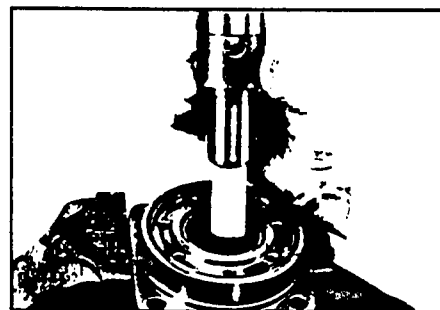

Figure 47
8. Be sure that a generous amount of clean corrosion resistant grease has been applied to the lower (outer) housing bearing/bushing (19). Install the coupling shaft (12) into housing (18), seating it against the thrust bearing (15) in MG and MF Series housings and against the second thrust washer (14) in MB and ME Series housings. SEE FIGURE 47.